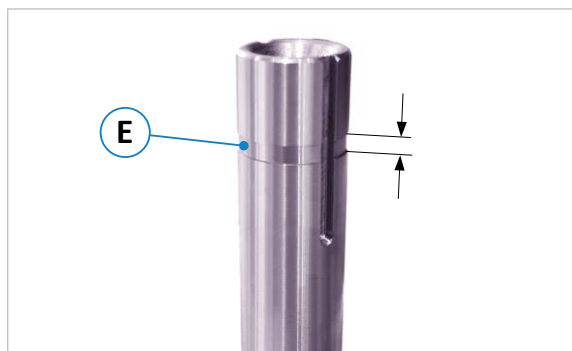

Figure 19: Marking for upper spacer ring
1. Loosen the clamping screw (S) on the quick-release nut (M) with the supplied SW4 pin spanner.
2. Then fully tighten the fixing screw (F) by hand and remove the quick-release nut (M) by taking it out.
3. Remove the spacer rings (D) and put on the new cutter head.
4. Put on the required spacer rings (D), if necessary. Place enough spacer rings so that the upper clamping surface of the upper ring is in the area (E) of the marking groove shown in ⇒ Figure 19.
5. Then put the quick-release nut (M) back on and tighten the fixing screw (F) by hand.
6. Now tighten the clamping screw (S) with the SW4 pin spanner → Tightening torque = **12 Nm**.
**With 12 Nm tightening torque of the clamping screw (S), the cutter is clamped with approx. 30 KN (= 3 t).**